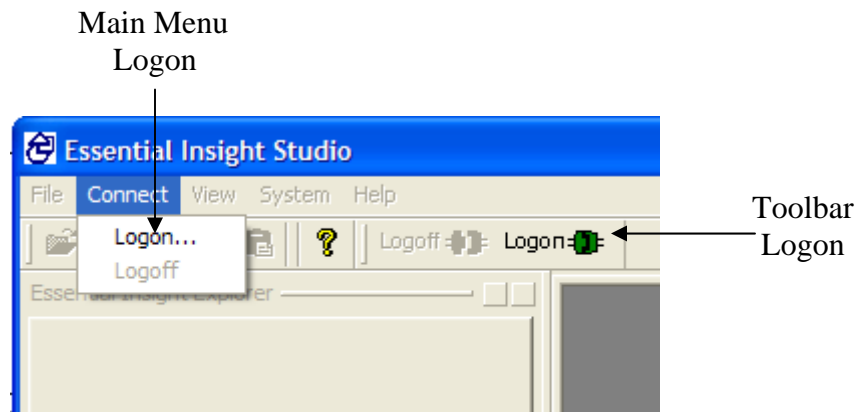

Figure 16
- 1.) Click the *Logon* icon on the toolbar or select *Logon* from the main menu of the application to activate the *Logon dialog*. See figure 16.